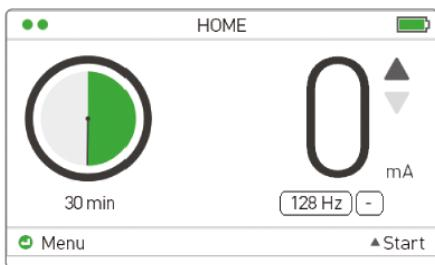
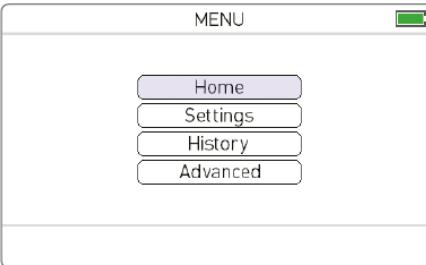

Figure 21. Home
Figure 22. Menu
- At HOME (see figure 21), press  to access MENU (see figure 22).